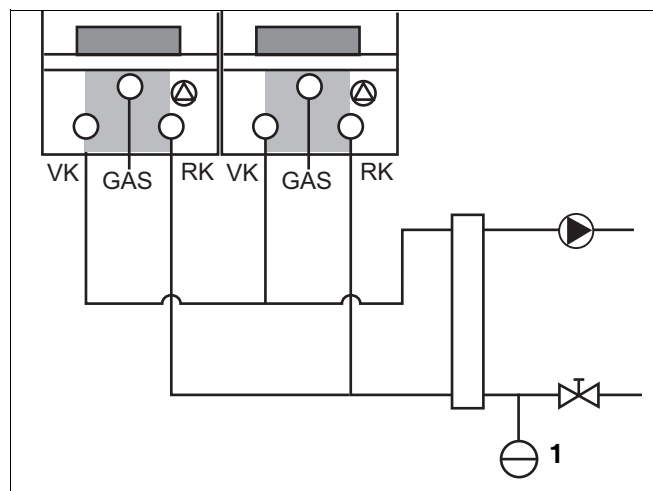

fig. 17 Connecting the expansion vessel in a multi-boiler configuration (cascade configuration)
- Connect the expansion vessel to the secondary side of the header in the return circuit (fig. 17), so that every boiler is connected to the expansion vessel (fig. 17).